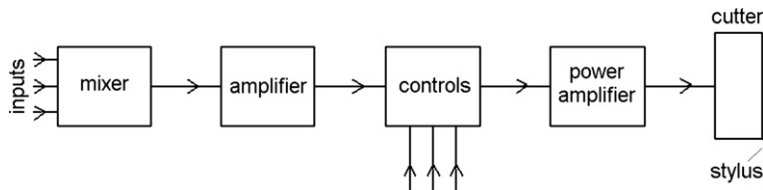

Figure 7.1:
Figure 7.1 shows a typical electrical recording system, and this block diagram is applicable right up to the time when compact discs (CDs) started to replace the older vinyl long-playing (LP) records. In the block diagram, several microphones are shown connected to a mixer, so that some control can be obtained, allowing the sound balance of a soloist and of different sections of a band or an orchestra to be achieved. This type of system also makes it possible to reduce background noise, like the coughs and sneezes of an audience, to some extent. The mixer stage is followed by amplification and then by filtering (of the lowest and highest notes) and compression stages (to avoid overcutting), then by a driver (a power amplifier). The signals from the driver operate the cutter head which, as the name suggests, cuts a track in the master disc, which can be metal, wax, or plastic. The power that is needed for a good-quality cutter can be very large, and in the latter days of LP discs cutter-heads might require up to 1 kW of power.